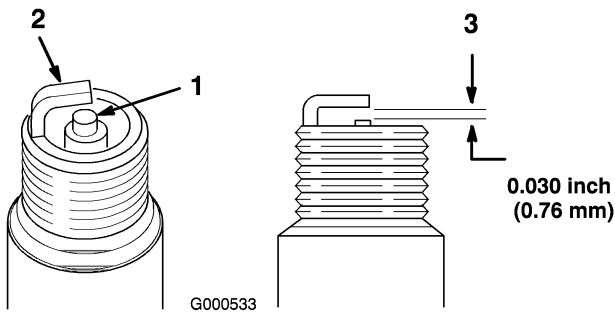

Figure 30
1. Look at the center of the spark plug(s) (Figure 30). If you see light brown or gray on the insulator, the engine is operating properly. A black coating on the insulator usually means the air cleaner is dirty.
2. Check the gap between the center and side electrodes (Figure 30). Bend the side electrode (Figure 30) if the gap is not correct.